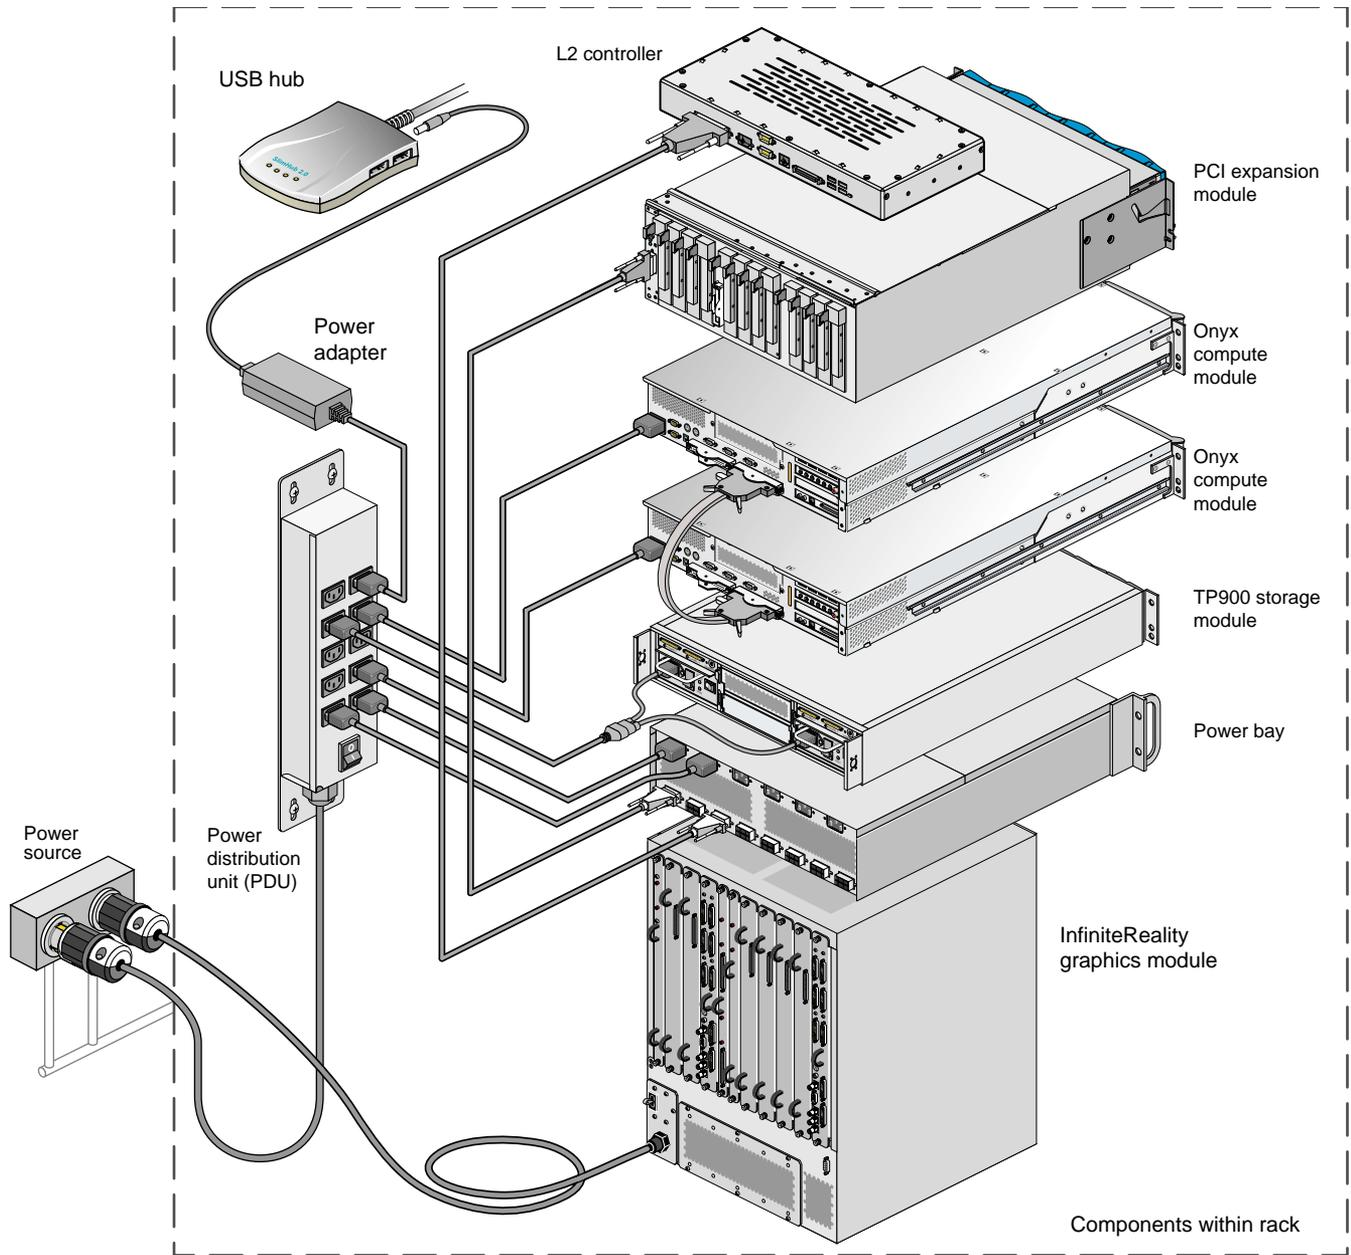

Figure 2-6 Example of Power Connection in IR System with DC-powered 4U PCI Module
- Between the InfiniteReality graphics module(s) and the external power receptacle(s) (see Figure 2-6).
- Between the power bay and the following modules: DC-powered 4U PCI expansion module(s), and L2 controller module (see Figure 2-6).
Figure 2-6 shows the connection between an InfiniteReality graphics module and an external power receptacle. It also shows the PDU and power bay connections to the other components within a system that contains a DC-powered NUMAlink module.